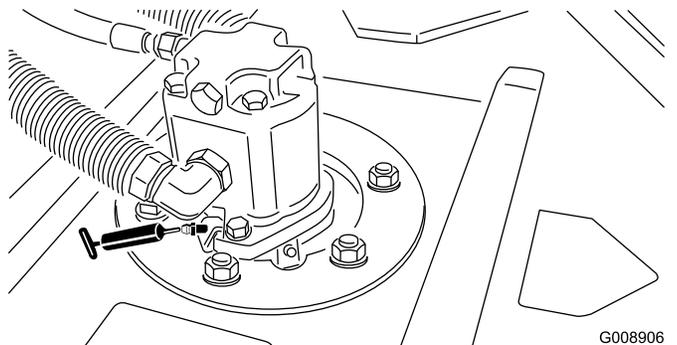

Figure 45
- Cutting unit spindle-shaft bearings (2 per cutting unit) (Figure 45)